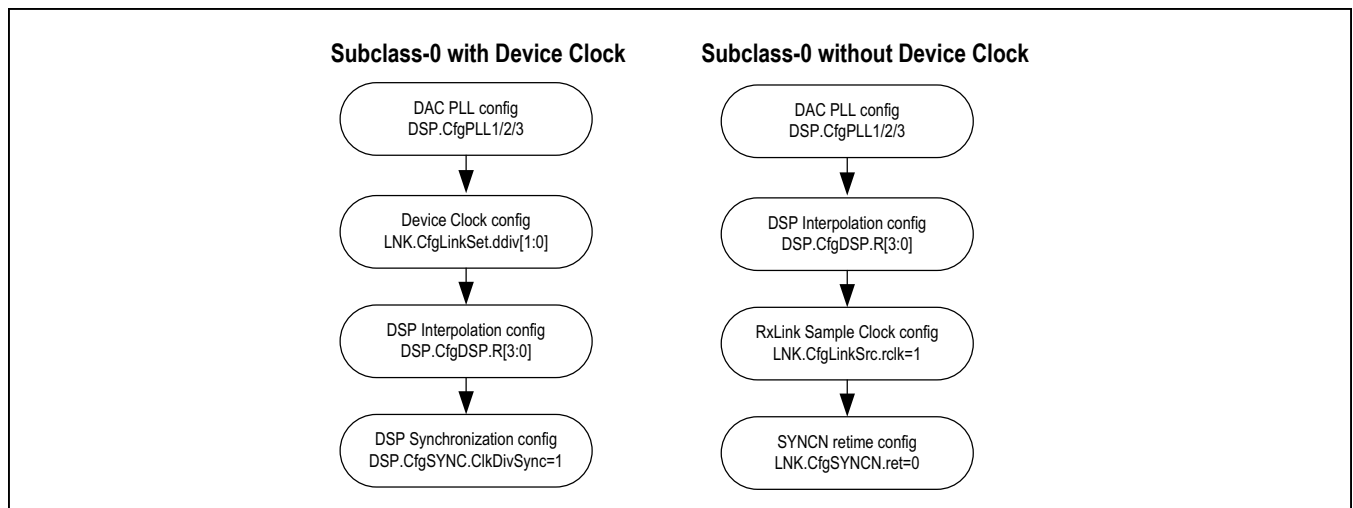

Figure 34. DAC Configuration Sequence
Depending on the source used for generating the sample clock, Figure 34 shows the JESD204B setups sequences required for Subclass-0 operation.
**FIFO Resets:** After the clock modes are configured and after a sufficient wait time has passed to allow the DAC PLL to lock, the DSP clock divider needs to be reset. Next the Rx LINK and DSP FIFOs need to be centered through the configuration process of Subclass-0 mode. Depending on the sample clock source, the setups shown in Figure 34 are used for Subclass-0.